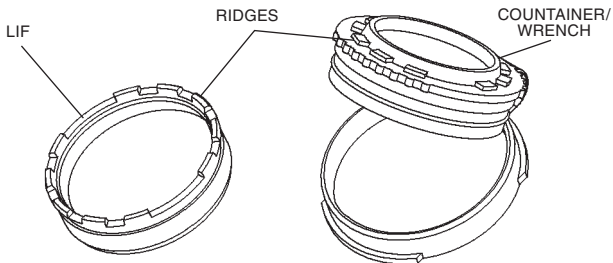

FIGURE 2.9. LIF
(2) If the objective lens cap or sacrificial window is on the objective lens of the monocular, remove it.
(3) Carefully open the container/wrench and remove the LIF. Refer to Figure 2.9.
(4) Hold the LIF by the ridged end (see Figure 2.9.) and thread it clockwise, into the end of the objective lens.